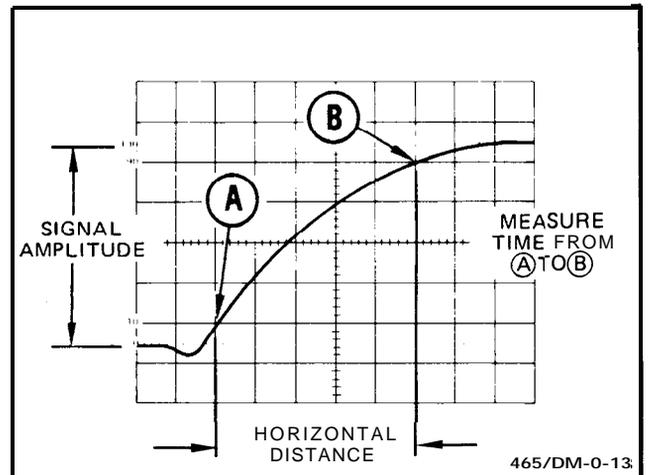

Figure 16. Rise time.
Rise-time measurements use the same methods as time duration, except that the measurements are made between the 10% and 90% points on the leading edge of the waveform (see Figure 16). Fall time is measured between the 90% and 10% points on the trailing edge of the waveform.
4. Adjust vertical positioning so that the zero reference of the waveform touches the 0% graticule line and the top of the waveform touches the 100% graticule line (see Figure 16).
6. Horizontally position the display so the 10% point on the waveform intersects the second vertical graticule line (see Figure 16, Point A).
EXAMPLE: The horizontal distance between the 10% and 90% points is 5 divisions (see Figure 16), and the SEC/DIV switch is set to 1 μs . The X10 magnifier knob is pushed in (1 X magnification).